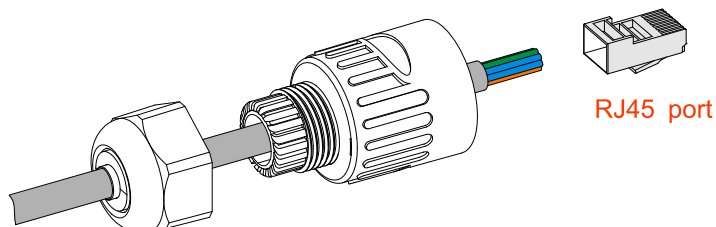

Figure3-29 Crimp the wires of RJ45 port
- Step 1 Strip the insulation layer of communication wire, unscrew the lock nut of waterproof RJ45 port (as shown in Figure3-29) and then lead the communication wire go through the RJ45 port and crimp it to the RJ45 plug..